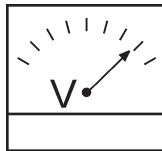

Figure 44. Voltmeter
8. The generator's AC-voltmeter (Figure 44) will display the generator's output in **VOLTS**. If the voltage is not within the specified tolerance, .